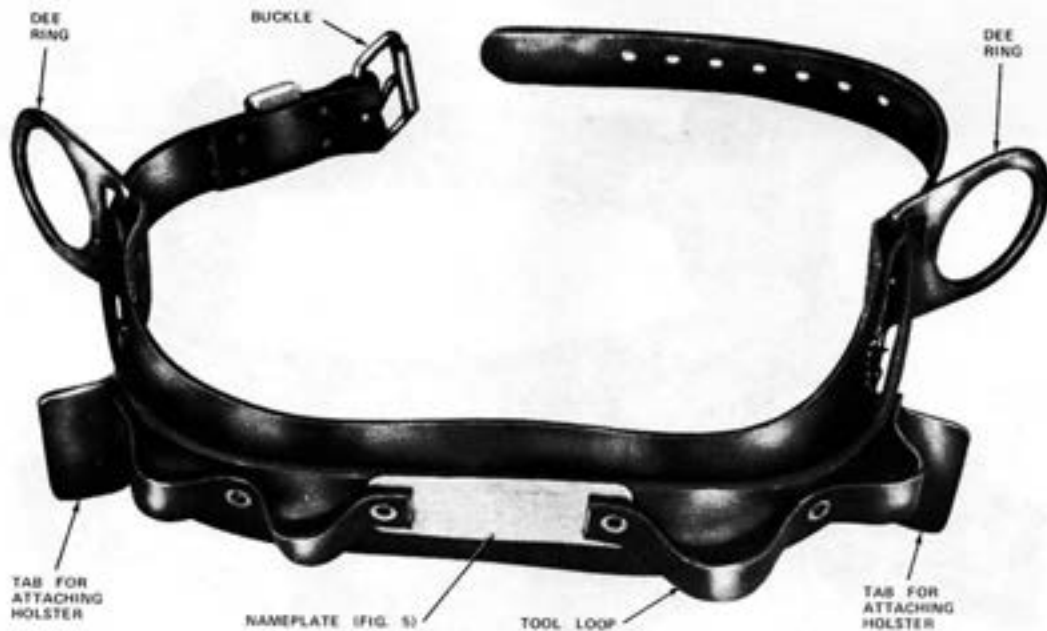

Fig. 2—F Body Belt
2.04 The F body belt (Fig. 2) is a light-weight belt made of six-ply neoprene-impregnated nylon fabric and is equipped with a buckle, Dee rings (for attachment of safety strap), and loops to accommodate tools. This belt has tabs for attaching holsters. The belt is available in the sizes, dimensions, and weights listed in Table B.